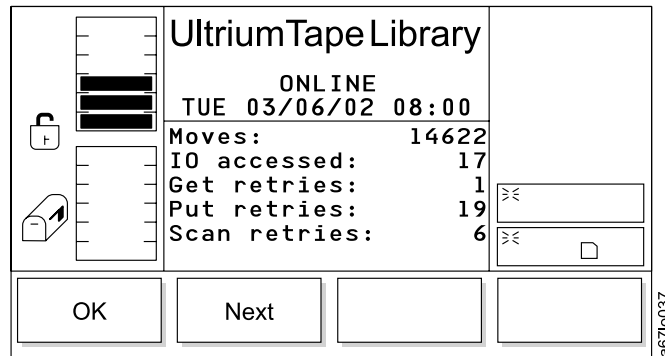

Figure 84. Statistics Dialog
- If **Next** is selected, the Statistics Dialog displays (see Figure 84).